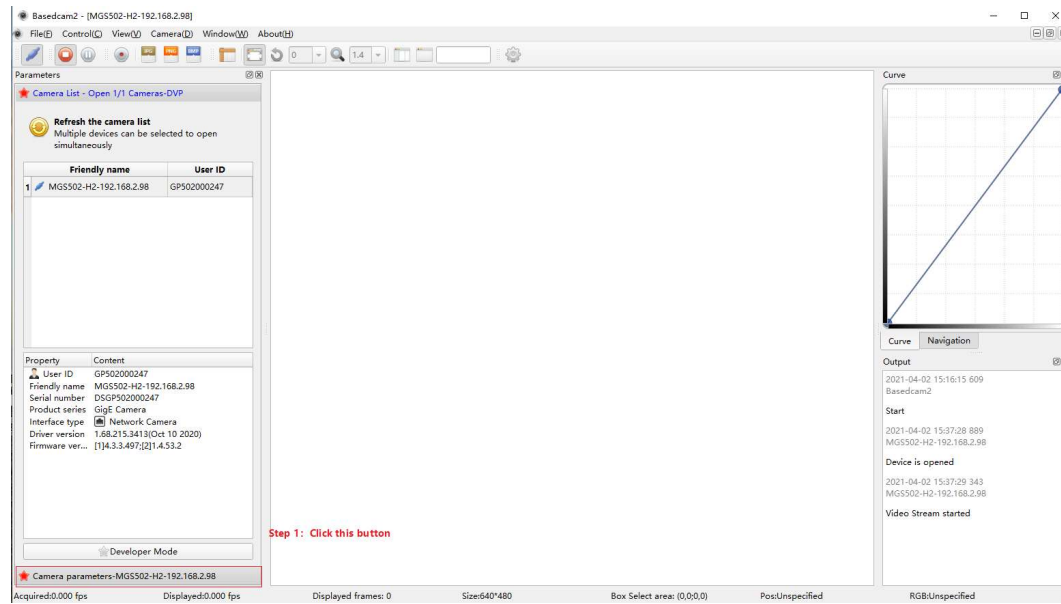

Figure 2.3.5
Step 2: Connect the camera. Successful connection is shown in Figure 2.3.5;